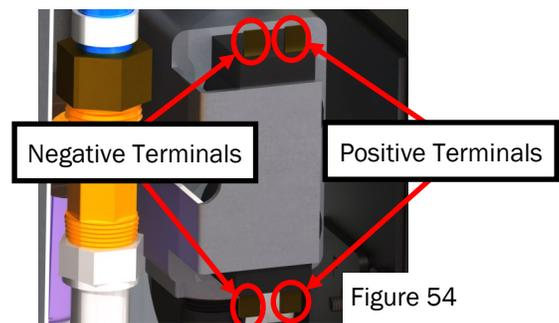

Figure 54
- If the Fenwal card is sending voltage to the dual-stage gas valve, check for voltage at the dual-stage propane valve as denoted by Figure 54 on the next page.